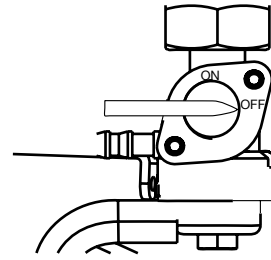
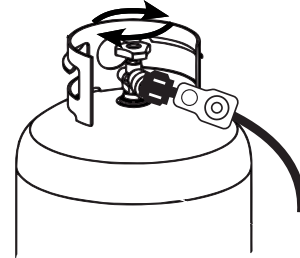

Figure 14 - Fuel Shut Off - OFF
Figure 15 - Propane Tank Valve - CLOSED
3. If you are operating on gas move the fuel shut off valve to **OFF** (see Figure 14). If you are operating on propane shut off the tank valve (see Figure 15). Wait for engine to shut off due to lack of fuel.